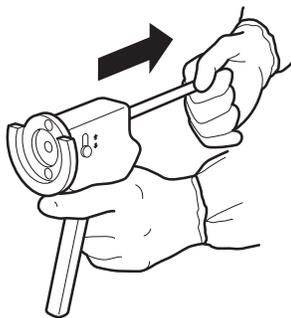

Figure 1
1. Turn the ram to disengage the drive system, then pull back the ram until its disc rests against the body of the cement gun (Figure 1).